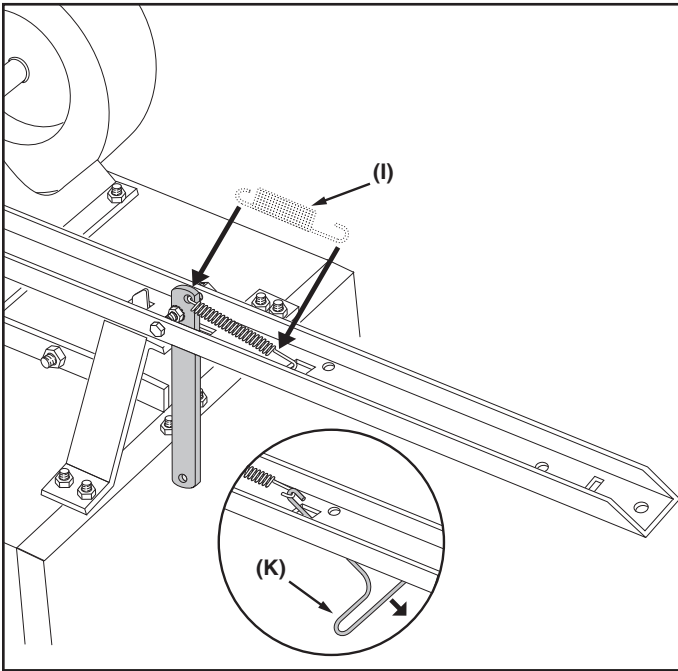

FIGURE 18
STEP 18: (SEE FIGURE 18)
- Attach the extension spring (I) to the latch lock bracket by inserting one end into the hole in the latch lock bracket. Using the spring puller tool (K), attach the other end of the extension spring (I) to the square hole in the 5/8" axle tongue as shown in figure 18.